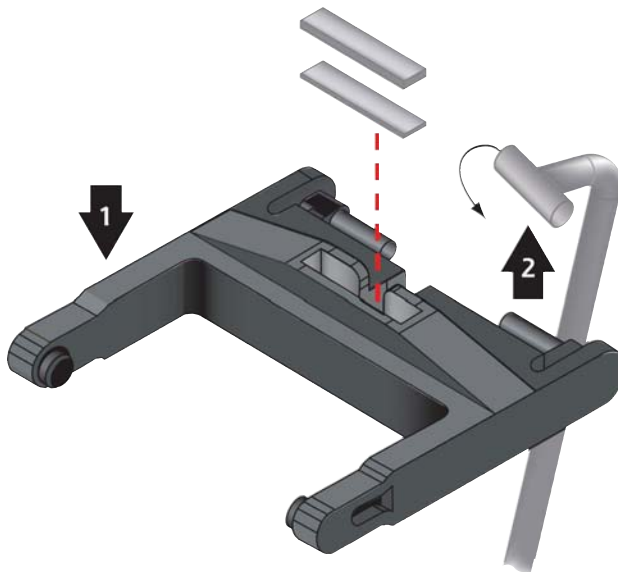

Figure 8-3
14. Remove the bracket (*see figure 8-3*).